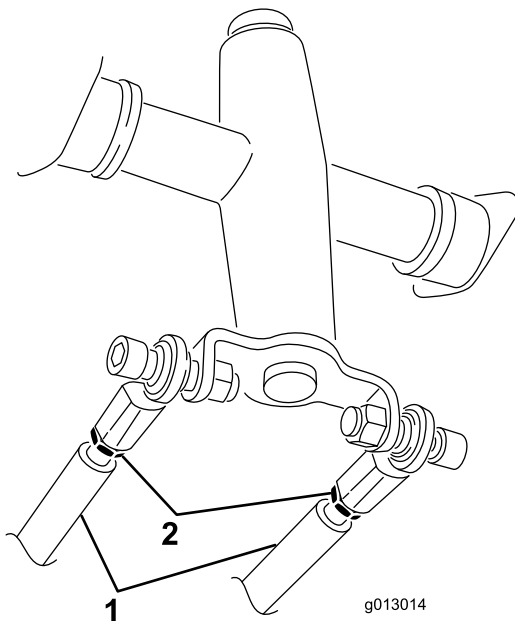

Figure 52
- Loosen the jam nuts on the traction rods, under the control panel (Figure 52).